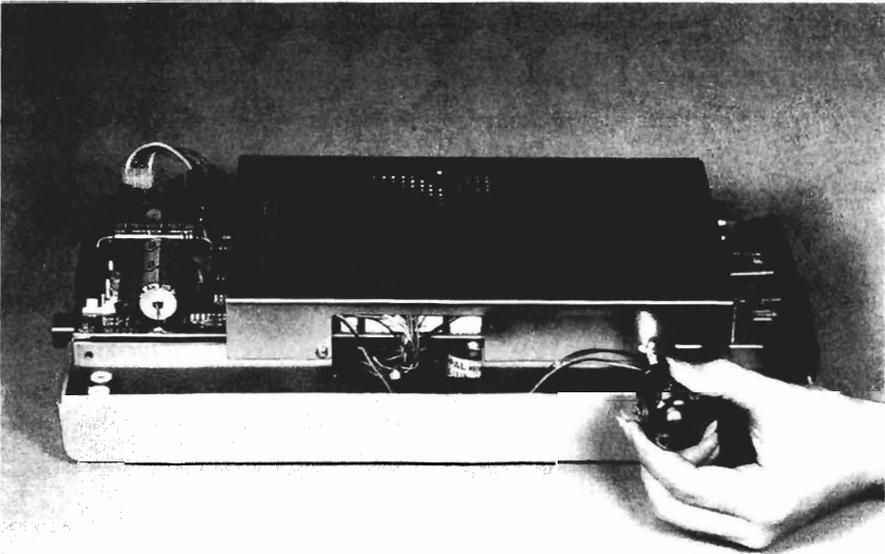

Fig. 6-13. Removing the metal housing.
7. Remove the two screws from the side of the metal housing shield (Fig. 6-13).